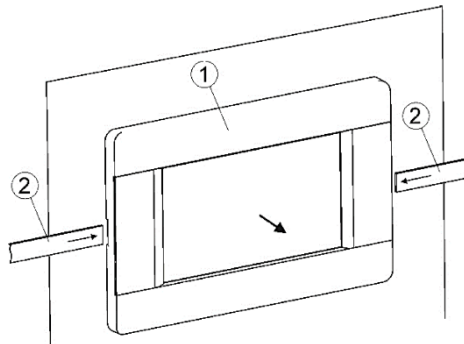

Figure 9. Removing the control panel
To replace the control panel (1), the panel must be removed from the boiler door cover by inserting suitable flat objects (2) into the slots shown in Figure 9. This will cause the panel stops to dislodge and allow the panel to be removed.